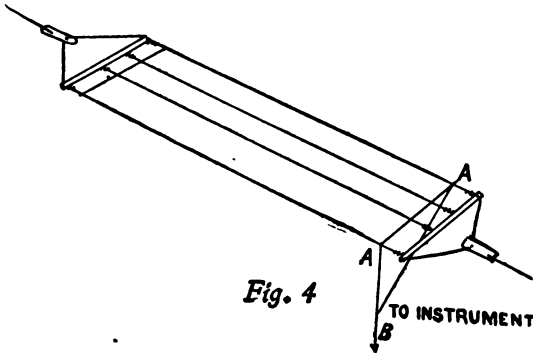

Fig. 4
An inclined aerial is shown in Fig. 4, in which both the above systems are combined. In this the main aerial wires are connected together at each end, and from the outermost wires at one end (A) leaders are fastened which join to a single wire passing to the station (B).